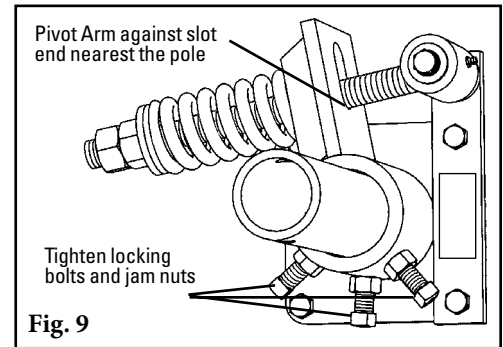

Fig. 9
15. **Tension the blades to the belt.** Rotate the blades until they contact the belt. While holding the spring bushing flat on the torque arm, rotate the torque arm until the pivot arm is against the end of the slot nearest the pole. Tighten the locking bolts and jam nuts on the torque arm (Fig. 9). **NOTE:** The torque arm should be up against the mounting plate.